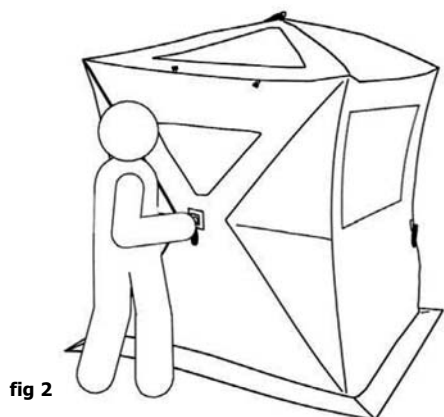

fig 2
Step 2: Firmly pull center hub of roof pull so it pops up (**fig 2**). Twist top so corners of top and bottom line up (**fig 2a**). This will make for easy set up when opening wall hubs.